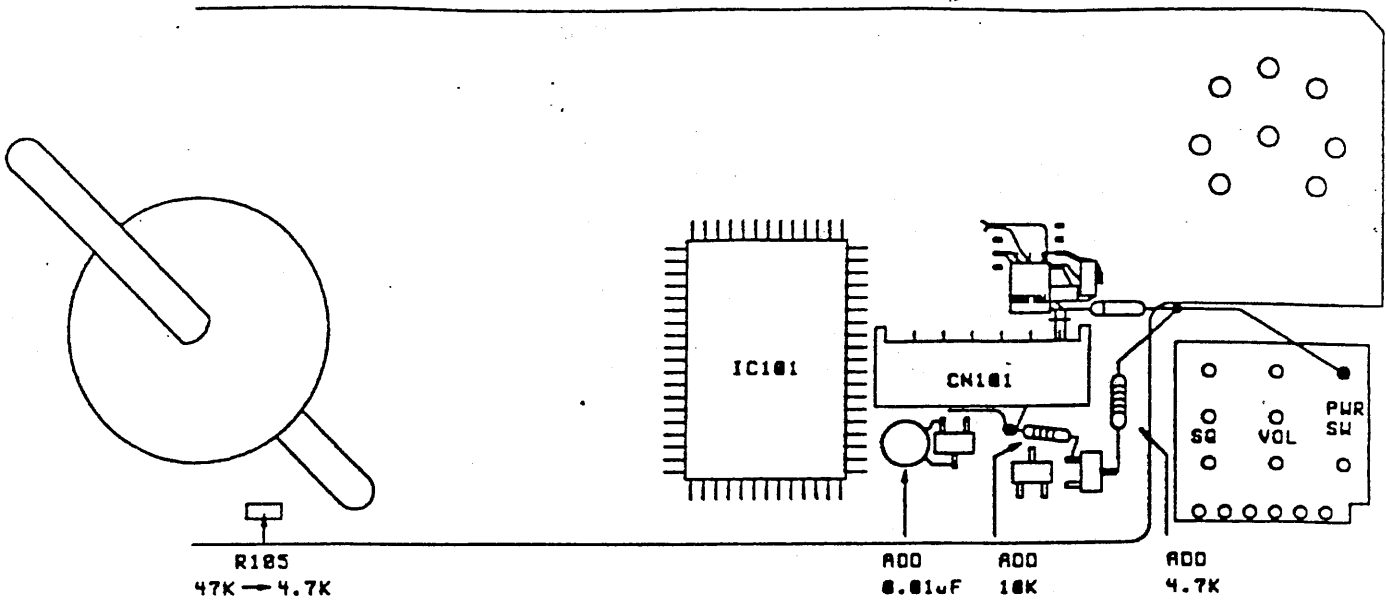

FIGURE 10
21. Prepare the 100µF capacitor, 10K ohm resistor, and 4.7K ohm resistor for installation. Place the parts on the board to size and cut the leads. Once the parts are prepared, solder them to the board. **Figure 10**
22. Locate R105. If the component is 47K ohm, change it to a 4.7K ohm chip resistor. The component's value can be determined by the numbers written on the case. If the device is labeled 473, it is a 47K ohm resistor and needs to be replaced. If the device is labeled 472, it is a 4.7K ohm resistor and does not need to be replaced. **Figure 10**